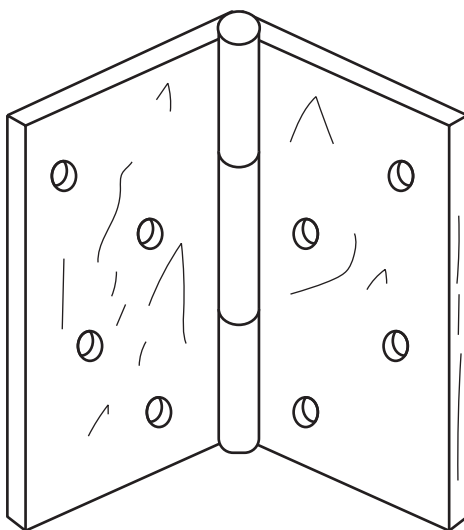

Fig. 14
- 14 **Figure 14** shows a common hardware piece used to secure a door to a door frame.
- (a) Name the type of hardware that is shown in **Figure 14**. [1]
- (b) With the aid of sketches, illustrate how the hardware in **Figure 14** can be fitted onto a door. [4]